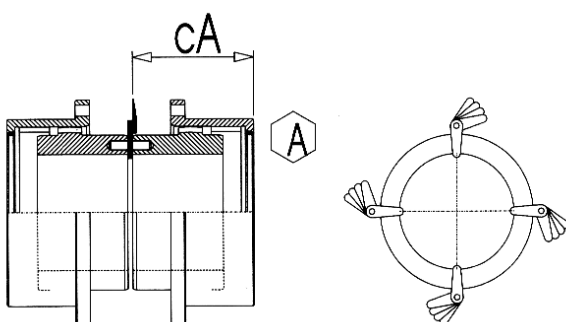

Fig.01
H.1 Determine the angular misalignment value by processing, in accordance with the scheme below, the measurements of the head parallelism between the reference face surfaces of the two hubs. For this purpose, by inserting the thickness gauge between the heads of the two hubs, perform a first 360° test to identify the position and the min. and max. entity of the distance between the hubs. After defining the extreme positions, take a precise measurement of four points at 90° , as **A** in Fig. 01.